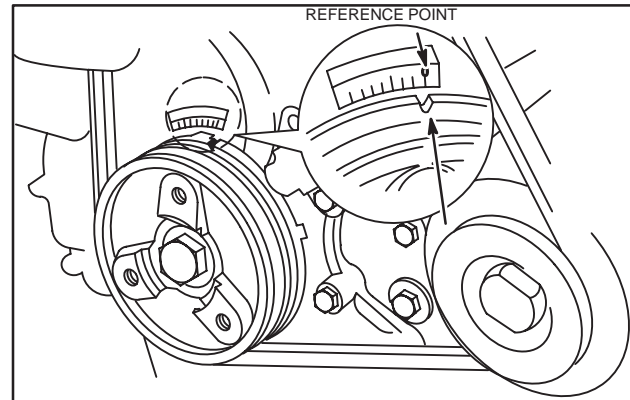

Fig. 39 – Set Cylinder No. 1 at TDC
1. Before adjusting valves, make sure that No. 1 cylinder is at TDC – compression stroke, Fig. 39.